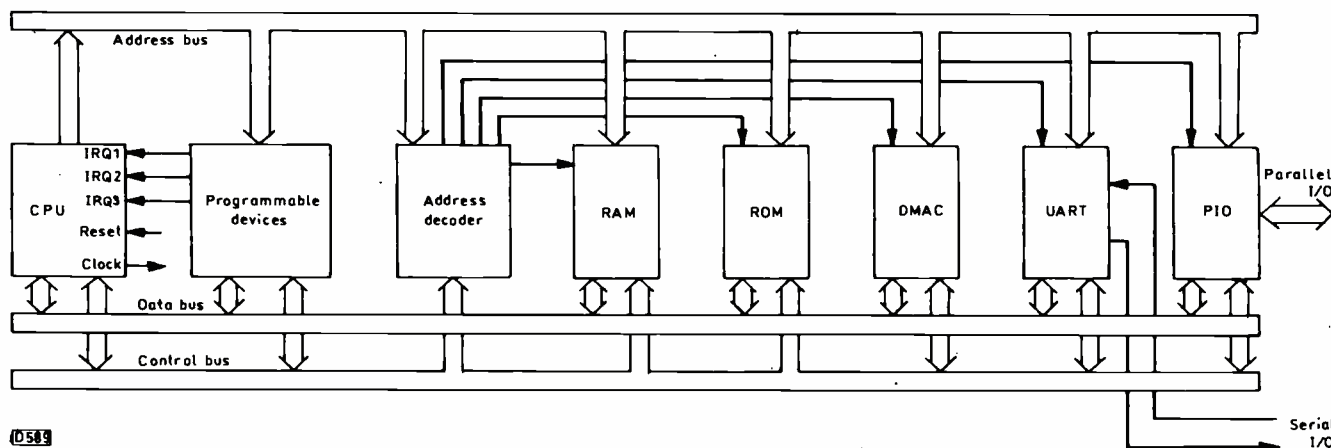

Fig 1: A basic general-purpose microcomputer system.
To make the operation of such processing systems clear, we'll start with a description of a basic general-purpose microcomputer system, see Fig. 1. It consists of the following elements: (1) a central processing unit (CPU); (2) memory chips, RAM and ROM; (3) an address decoder chip; (4) input and output interface chips, PIO and UART, for connection to other systems (monitor, printer etc.); (5) a direct memory address con-
Input/output devices connect the system to external items. They act as an input or output route for transferring data to and from items such as a keypad, display unit, remote control unit, video decoder etc. Two types are shown in Fig. 1, PIO and UART. PIO stands for parallel input-output: this chip provides a parallel communication path to and from the system. A UART (Universal Asynchronous Receiver/Transmitter) provides a serial data communication route to and from an external device such as a modem or mouse.
The hardware items so far mentioned are interconnected via a bus structure that has, as shown in Fig. 1, three sections, address, data and control. The address and data buses provide a parallel highway along which multi-bit addresses and data travel from one chip to another. The control bus is used for the lines that carry control signals to and from the CPU.